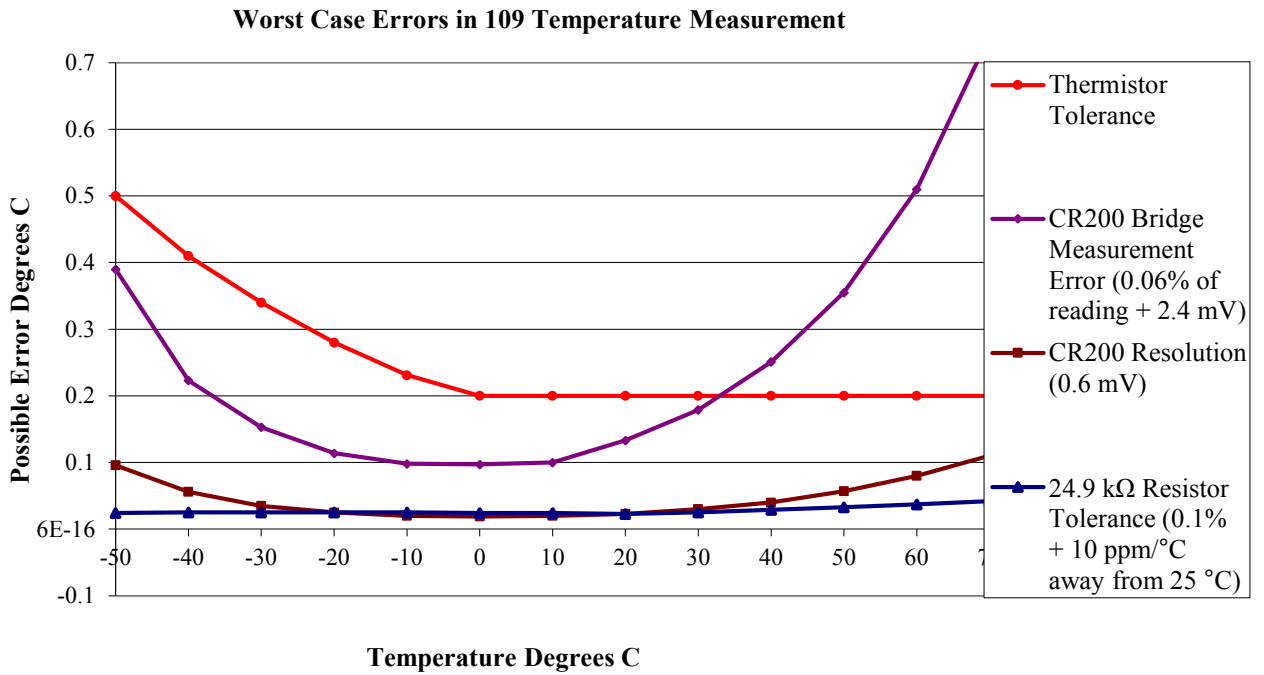

FIGURE 6-1. Worst case probe and measurement errors
1See FIGURE 6-1, *Worst-case probe and measurement errors*, and FIGURE 6-2, *Steinhart-Hart linearization error*. Overall probe accuracy is a combination of thermistor interchangeability, bridge-resistor accuracy, and error of the Steinhart-Hart equation. Interchangeability is the principle component error and is predominantly offset. Offset can be determined with a single-point calibration. Offset can be entered in the **Therm109()** instruction **Offset** parameter. The bridge resistor has a 0.1% tolerance with a 10 ppm temperature coefficient. At temperature extremes, the possible error in the CR200(X) series datalogger measurement may be greater than the error that exists in the probe.